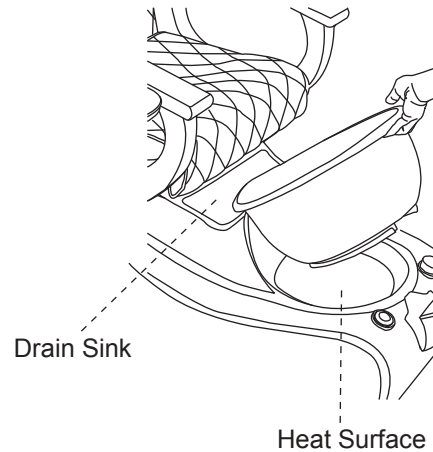

Fig.2
Align the impeller unit onto the anchor pegs and push it onto the base plate as shown in Fig.2
3. **To drain:** Unlock the footrest and full the footrest forward as shown in Fig.1. then simply tilt the plastic bowl to drain the water into the drain sink as shown in Fig.2.